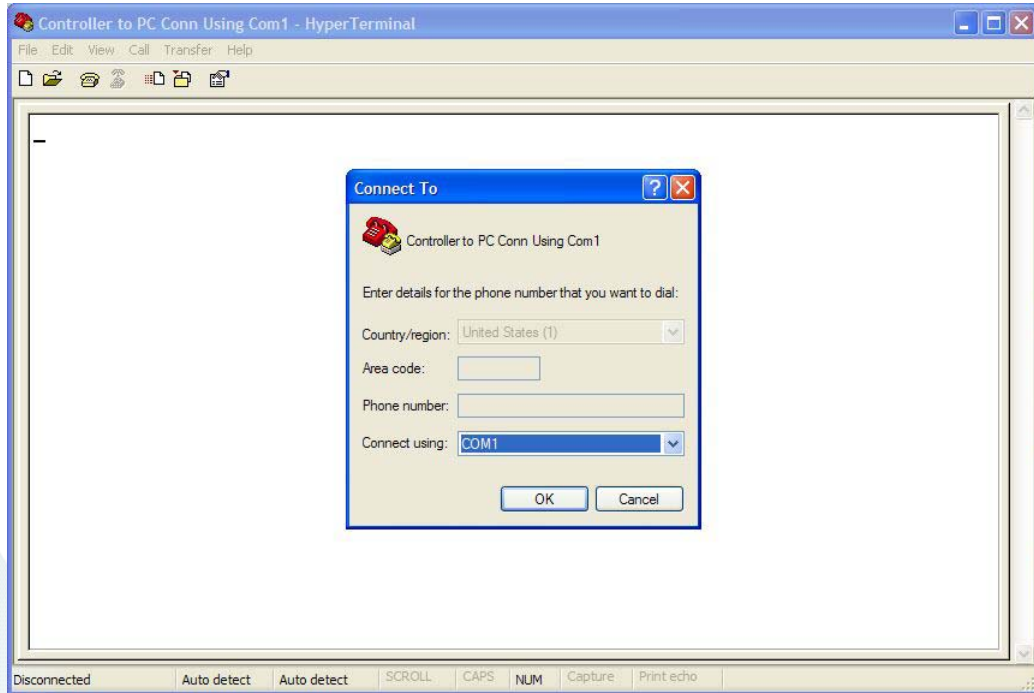

Figure 4 Set Connection to Match Serial Port Used on the PC
12. Enter a name for the new connection in the dialog box, and then select the "OK" button. The "Connection Description" dialog box will close and the "Connect To" dialog box will open (See Figure 4 Set Connection to Match Serial Port Used on the PC)